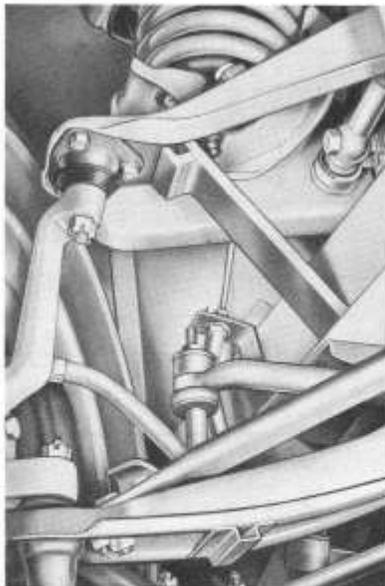

FIG. 2—Upper Arm Support
1. Position a support between the upper arm and frame side rail as shown in Fig. 2, then raise the car and position safety stands.
1. Position a support between the upper arm and frame as shown in Fig. 2, then raise the car and position safety stands.